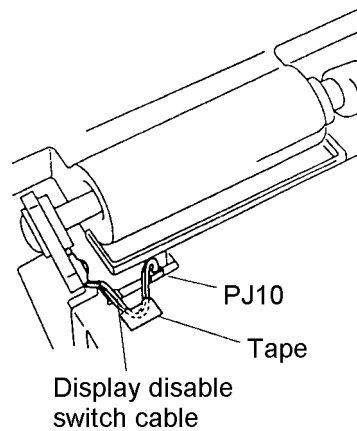

Figure 4-20 Connecting the Display Disable Switch Cable
6. Connect the **display disable switch cable** to its connector (**PJ10**) on the system board and secure it in place with **tape** (Figure 4-20).